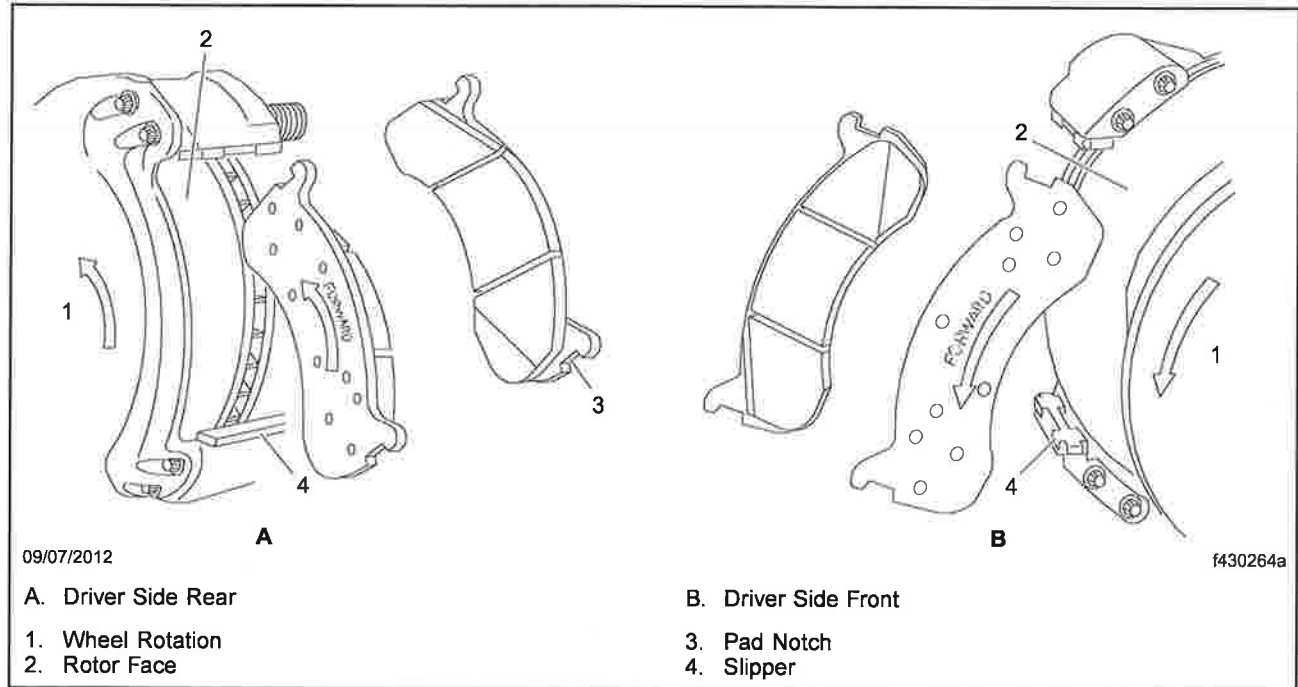

Fig. 8, Replacing Brake Pads on Front and Rear Brakes
18. Remove the slippers. See Fig. 8. Clean the anchor plate abutments and install the new slippers included in the brake pad kit.
19. Position the inboard and outboard disc brake pads onto the anchor plate pad abutment slippers with the lining facing toward the rotor. See Fig. 8.